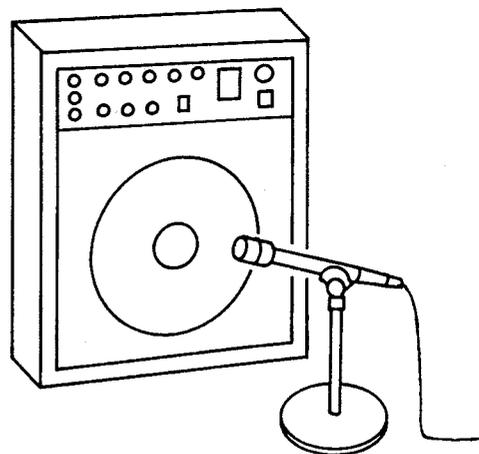

FIGURE 5 – Amplified Guitar Microphone Placement
**Electric/Bass Guitar Pickup.** Place the microphone very close to the guitar loudspeaker at a point midway between the center and edge of the cone. (See Figure 5.) Select one speaker out of a cluster of identical speakers. A Variable-D cardioid microphone, such as the PL6, or PL11, has been selected for its excellent polar response and smooth, flat frequency response.